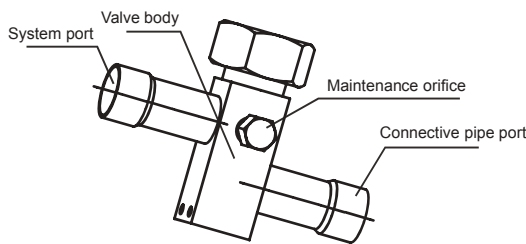

Fig.6-5
- Upon completion of installation, open all valves before trial run. Each unit has two valves of different sizes located at the outdoor unit side. Of the two valves, one is gas valve and the other is liquid valve. The procedure of opening/closing the valve is shown in the right figure (Fig.6-5).